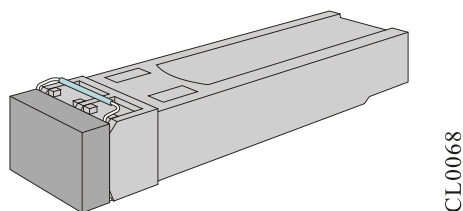
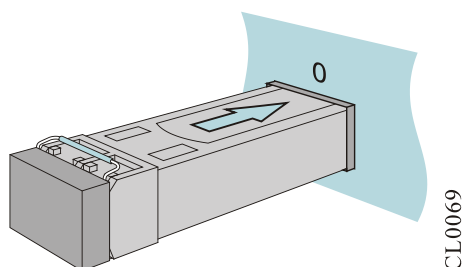

Figure 4-13 SFP module
Figure 4-14 Install the SFP module
- Step 3: Get the SFP module out from the packing box. The appearance of the SFP module is as shown in Figure 4-13. Use the hands to hold the two sides of the SFP module and push it into the interface slot of the router horizontally until the SFP module is close-contact with the slot (you can feel that the shrapnel at the top and bottom of the SFP module stuck the interface slot), as shown in Figure 4-14.